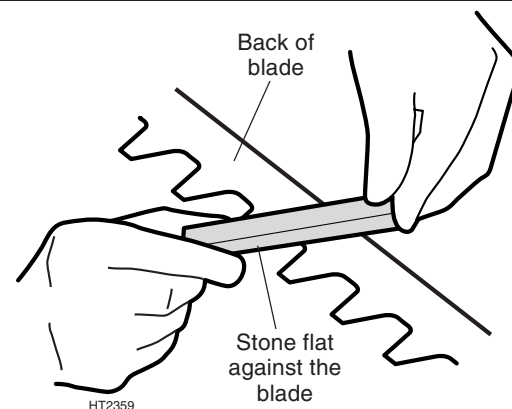

Figure 39. Removing burrs.
STEP 6. Turn the cutter over, and use a fine oil stone held flat to remove any burrs from the bottom faces of the individual cutter teeth (Figure 39).